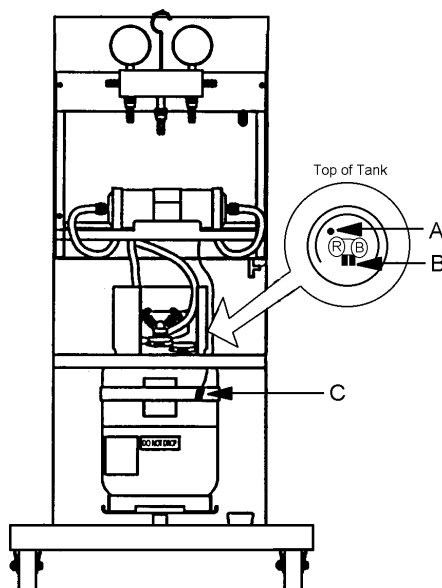

FIGURE 3 INSTALLING TANK
11. Connect the Yellow Hose from the bottom of unit to the purge valve (A) shown in FIGURE 3 on top of the Recovery Tank. Connect the Red Hose from the bottom of the unit to the **RED** valve (B) on the Recovery Tank.
12. Slide the Temperature Lead between the Velcro Strap (C) on the recovery tank. Ensure that the velcro strap is 2" above the weld of the tank.